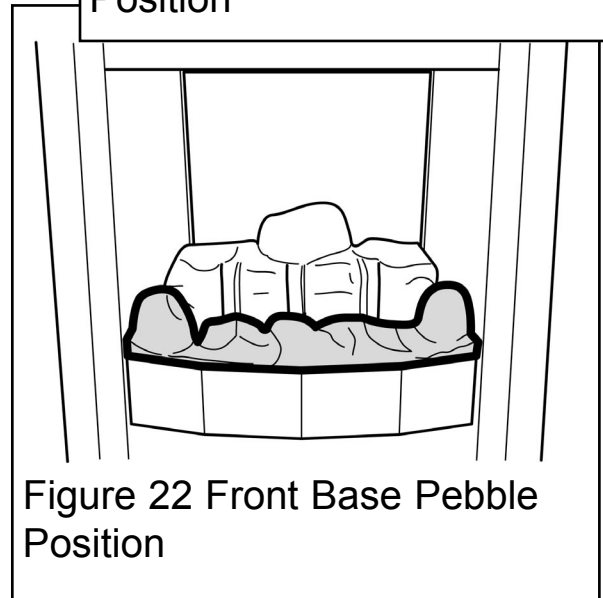

Figure 22 Front Base Pebble Position
2. Place the front base pebble in the firebox with its bottom front locating over the front rim of the firebox. Pull the pebble forward so that it locates immediately behind the front rim of the firebox. (See figure 22). The front base pebble will touch the rear base pebble as it is located.